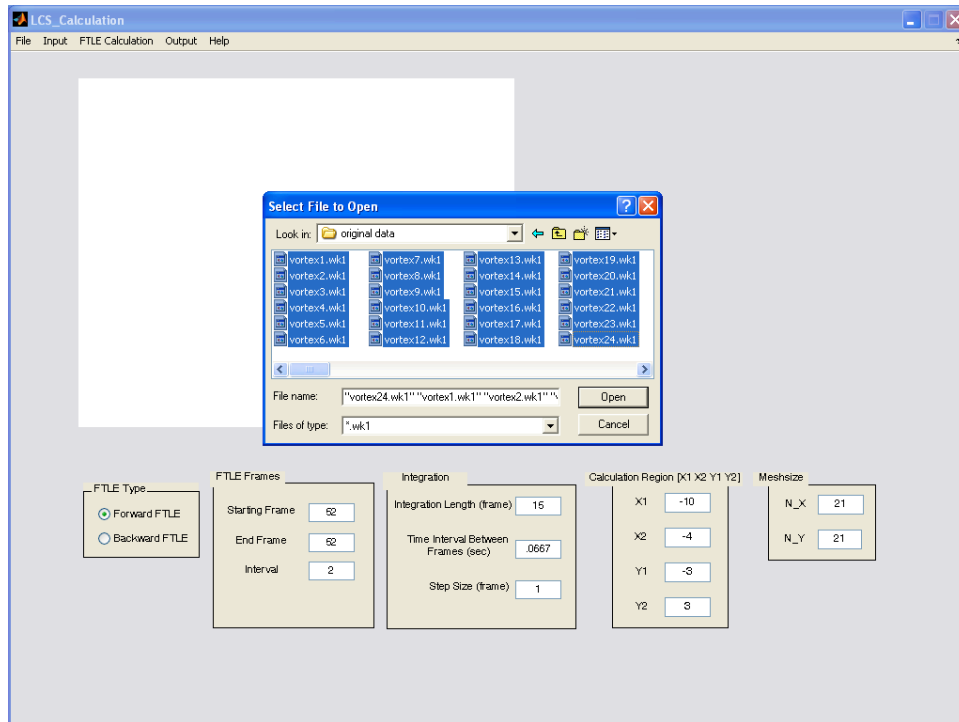

Figure 2.1
2.1 From the GUI, select from menu 'Input -> Load Original Data'. A 'Select File to Open' dialogue box appears. Select the velocity files and click 'Open' (Fig. 2.1).